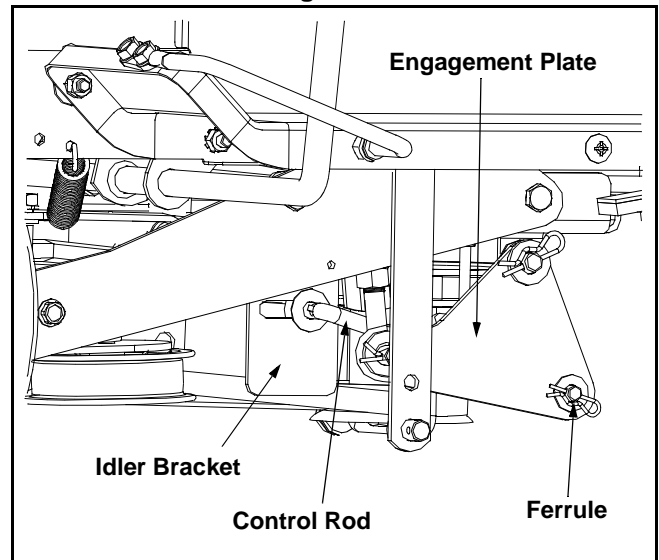

Figure 20
2. Locate the control rod found to the inside of the engagement plate on the undercarriage assembly. See Figure 20 .
3. Remove the hairpin clip and flat washer from the ferrule found at the rear of the control rod. See Figure 20 .